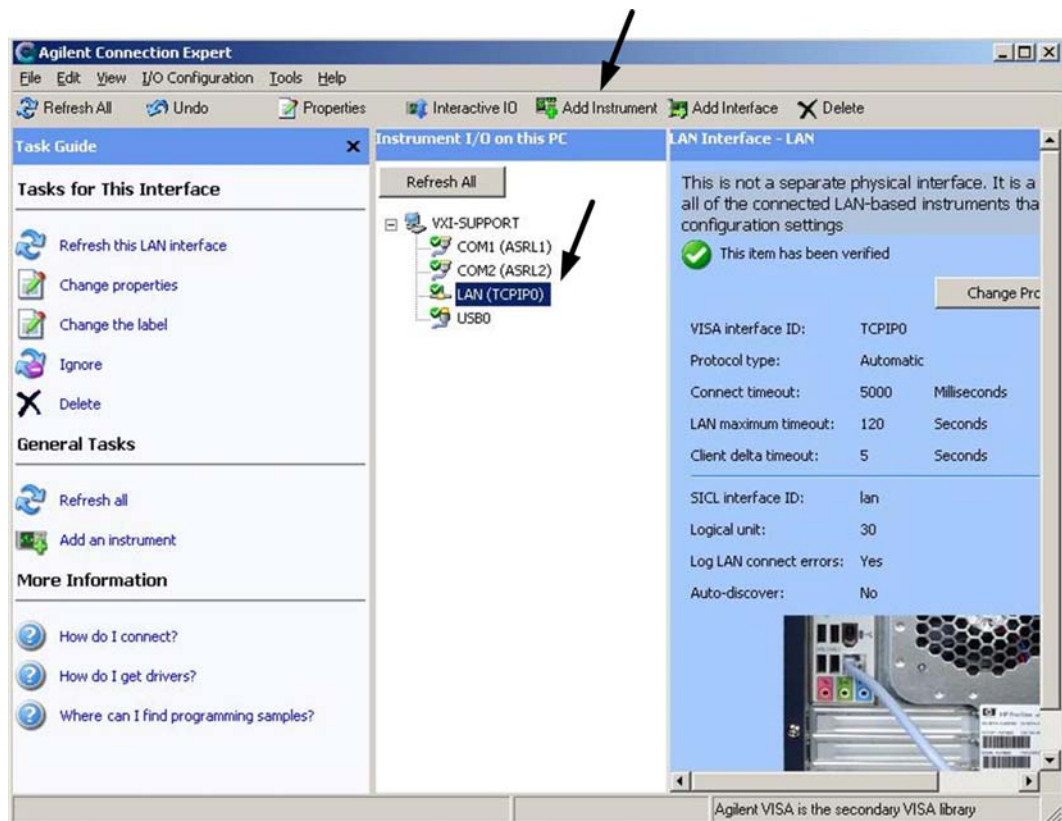

FIGURE 2-1: AGILENT CONNECTION EXPERT MAIN WINDOW
- 3) Select **LAN (TCPIP0)** and then click “**Add Instrument**” (See Figure 2-1).